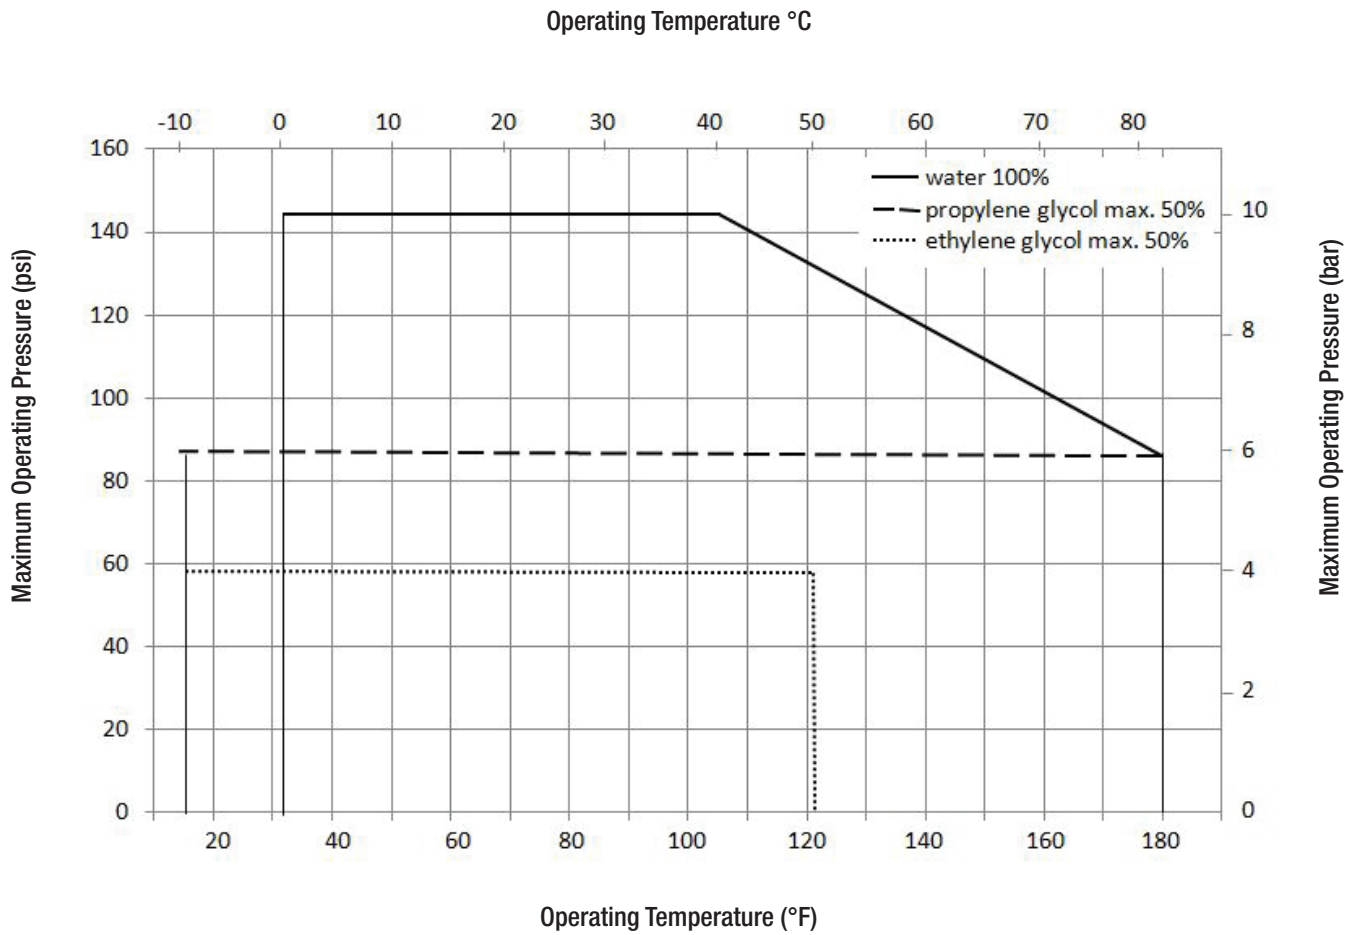

Fig. 2: Manifold temperature and pressure capabilities for different system fluids
- Maximum permissible continuous operating pressure for 100% water is 87 psi (6 bar) at 180°F (82.2°C). See Fig. 2.
- Propylene glycol and ethylene-based glycols at maximum 50% concentration are recommended within temperature pressure ratings as shown in Fig. 2 in case freeze protection of system is necessary. Alcohol-based glycols are not permitted because they can lead to system failure.
Maximum operating temperature for 100% water	180°F (82.2°C) @ 87 psi (6 bar), see Fig. 2.
Minimum operating temperature	14°F (-10°C) @ 145 psi (10 bar), see Fig. 2.